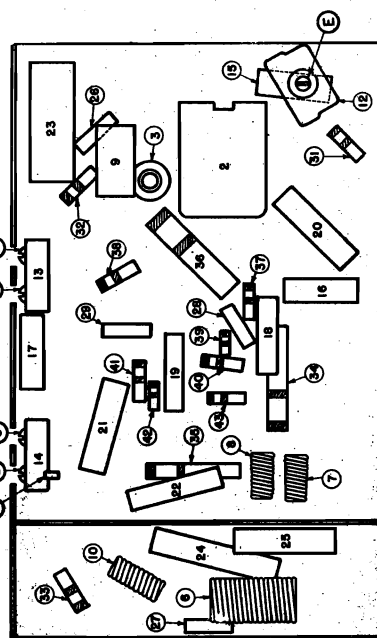

FIG. 4--PARTS LAYOUT--Bottom View
The Model 165 Cathode Ray Oscillograph should be used to check the I-F band spread after completing the "Alignment Procedure". Slight adjustment of the I-F stages may be found necessary in order to obtain a symmetrical selectivity curve. Connect Cathode Ray from connection "I" (Fig. 4) to ground.
- Adjust trimmers A-B-C-D through the cut outs on the side of the chassis (illus. 13 & 14, Fig. 4) carefully for maximum output.
- Adjust trimmer "E" on Delco Syncro-Tuning condenser (illus. 12, Fig. 4) located next to antenna receptacle on bottom of chassis, rocking gang condenser plates back and forth through the signal until maximum output is obtained. (It will be necessary to readjust this condenser to the car antenna upon installation of the set.)
*(Model R664, illus. 11, Fig 4)